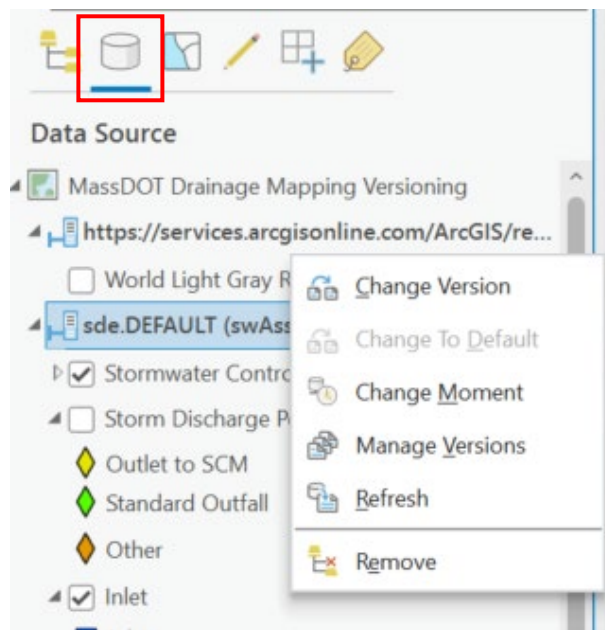

Figure 8
11. In the Contents Pane, select List by Data Source. Right click on "sde.DEFAULT (swAssets)" and select Change Versions (Figure 8).